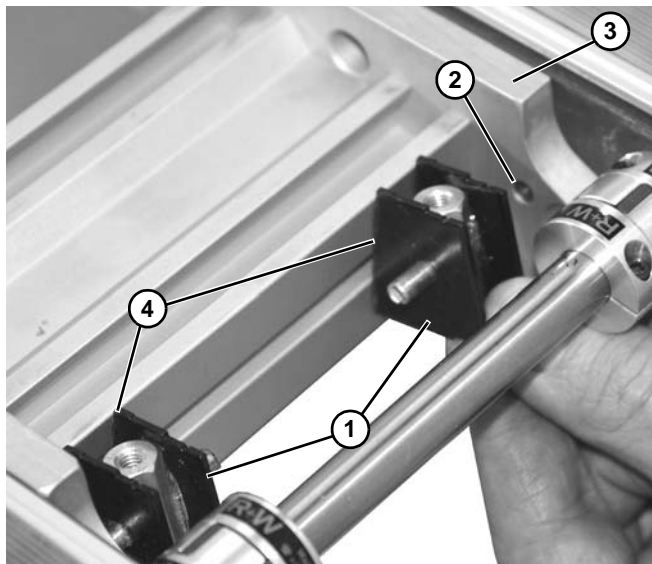

Figure 30
11. Install guard plate (**Figure 30, item 1**) pin into hole (**Figure 30, item 2**) on each side of tie tube (**Figure 30, item 3**).
*Install guard plate (**Figure 30, item 1**) with offset angle (**Figure 30, item 4**) facing tie tube (**Figure 30, item 3**).*